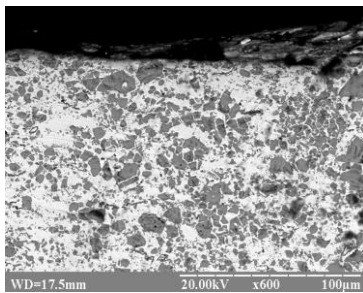
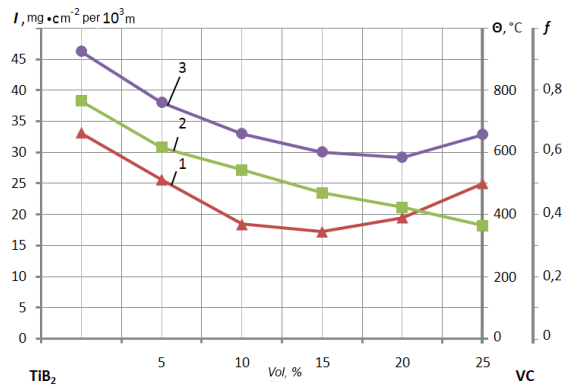

Fig. 2. Microstructure of cast alloys XTH-62 (a), P-69 (b) and cemented Co-TiC carbides (c)
Fig. 3. Dependence tribotechnical properties melted coating VTN plasma volume content of TiB₂ and VC at P = 2 MPa, V = 0,5 m / s 1 - f; 2 - Θ; 3 - I
Powder alloy P-76 (ref. 4) (fig. 2) is characterized by uniform carbides distribution through the alloy. Grain size varies from 0.5 μm up to 20 μm. Wear chart is shown on fig. 3.